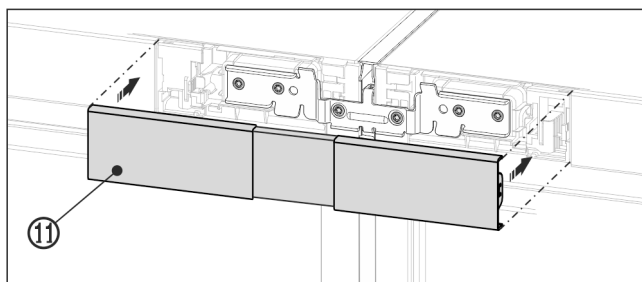

Fig. 23 Example illustration
- ▶ Snap the top cover *Fig. 23 (11)* onto the still open gap between the two control panel trims. Make sure that the outer sides of the cover form a flush finish with the control panel trims.